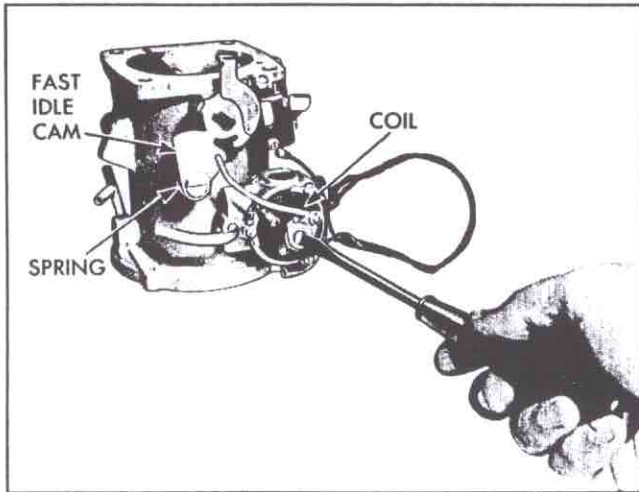

Fig. 128—Removing Cold Enrichment Coil
3. Remove the fast idle linkage and cold enrichment coil as an assembly by first removing the screw attaching the fast idle cam (fig. 128). Then remove three screws and retainers securing thermostatic coil to the housing and lift out the cam, spring, linkage, and coil as an assembly. Further disassembly of these components is unnecessary unless replacement is required.